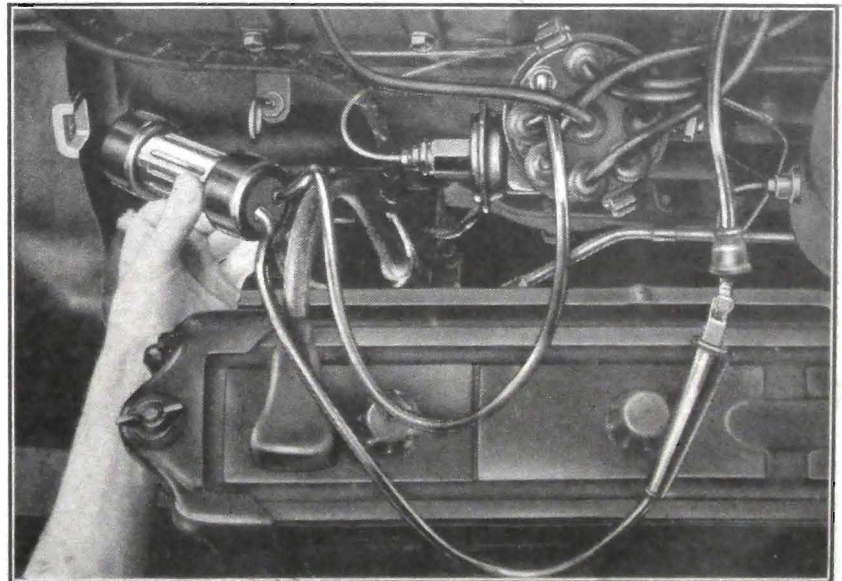

Fig. 12-34. Engine Timing, Using Timing Synchroscope J-696
- Insert lead from engine timing synchroscope into No. 1 terminal on distributor cap. Connect other lead to end of No. 1 spark plug wire as shown. See Fig. 12-34.